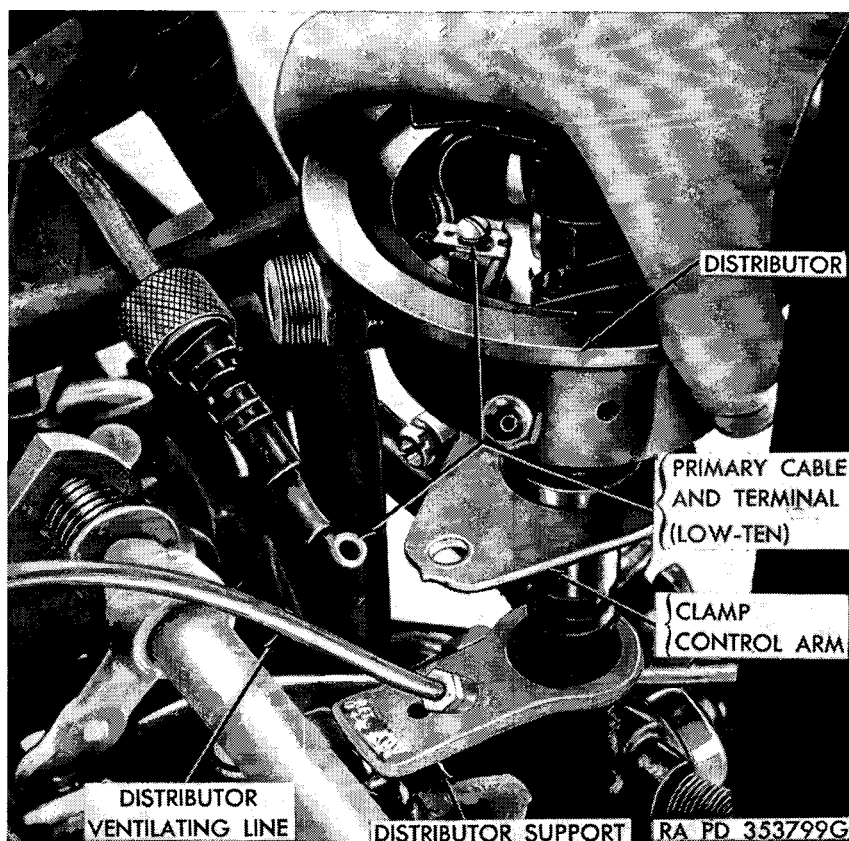

Figure 57. Removing distributor.
a. **REMOVAL.** Open engine compartment hinged door. Remove distributor cap. Leave cap in engine compartment suspended by ignition cables. It is not necessary to disconnect cables unless cap is to be replaced. Disconnect the two distributor housing ventilating lines. One of these lines is connected to the crankcase ventilating air cleaner and the other to the carburetor air intake elbow. Disconnect the two primary (low-tension) cables by unscrewing the coupling at side of distributor; also disconnect the end of cable inside the distributor at the terminal (fig. 57). The cable from the capacitor (condenser) connects to the same terminal. Remove the screw which holds the ground strap. Remove the cap screw which holds the clamp arm to the support base and lift out the distributor.
- (1) *Removal.* Remove distributor cap and rotor. Disconnect capacitor (condenser) cable from primary (low-tension) terminal (figs. 57 and 58). Remove screw and lock washer which holds capacitor (condenser) bracket to breaker plate, and lift out capacitor (condenser).